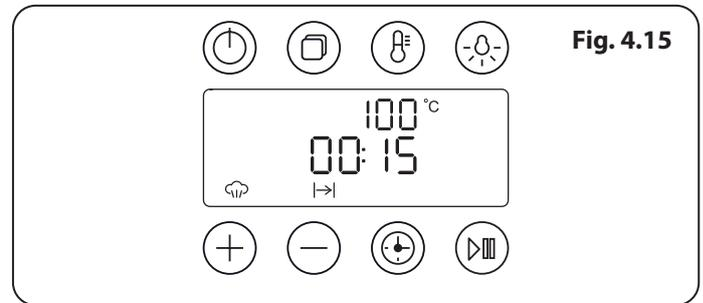

Fig. 4.15
4. Tap the Start / Pause button. The display will show the 'cook period' (**Fig. 4.15**) and the 'stop time' (**Fig. 4.16**).